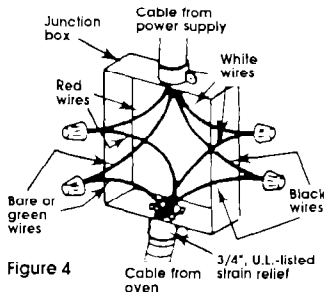

Figure 4
A four-wire, power supply cord must be used in a mobile home installation. The appliance wiring will need to be revised. See "Electrical requirements", Figure 4, Panel B.
3. Connect the two black wires; then connect the two red wires. (See Figure 4.)